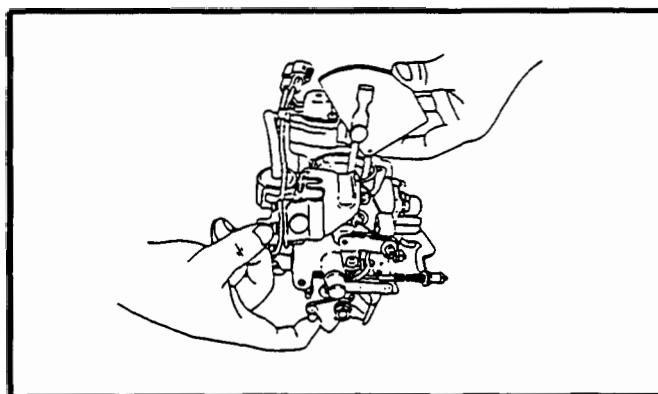

Figure 27.
1. With the throttle fully opened, check the choke plate opening angle. Specified angle is 44° from horizontal plane. See Figure 27.